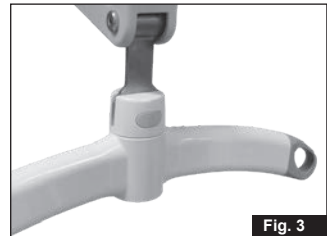

Fig. 3
3. Check that the yellow button has returned to its locked position by checking that it is flush with the cover of the lifting hanger and that the strap attachment can rotate freely. (fig. 3).